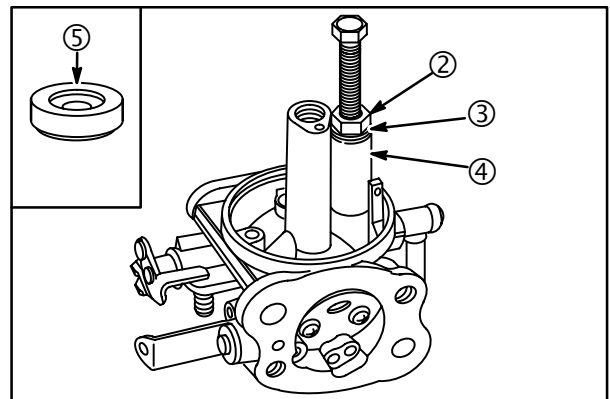

Fig. 50
2. Install 1/4" x 20 Nut #92278 (2) and Washer #224061 (3) from #19332 Tool Kit onto screw, **Fig. 50**.
3. Place a 1/4" drive 9 mm (3/8") socket (4) over seat body.
5. Continue turning until seat body is removed. Remove fuel inlet seat (5).